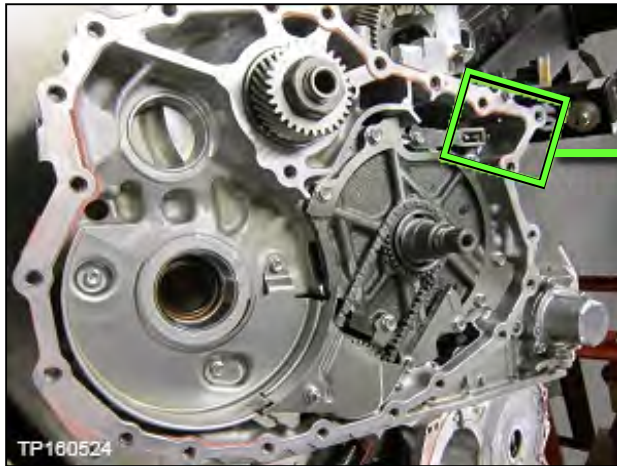
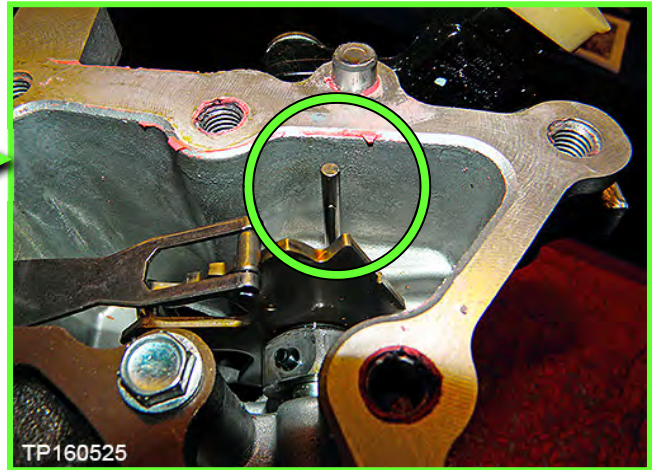

Figure 31
Figure 32
17. Note the location of the pin shown in Figure 31 and Figure 32.